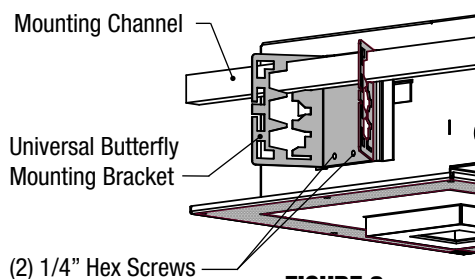

FIGURE 2
2. Fixture comes equipped with universal BUTTERFLY MOUNTING BRACKETS that can take common 1" or 1-1/2" black iron or galvanized MOUNTING CHANNELS (supplied by others). *See Fig 2.*